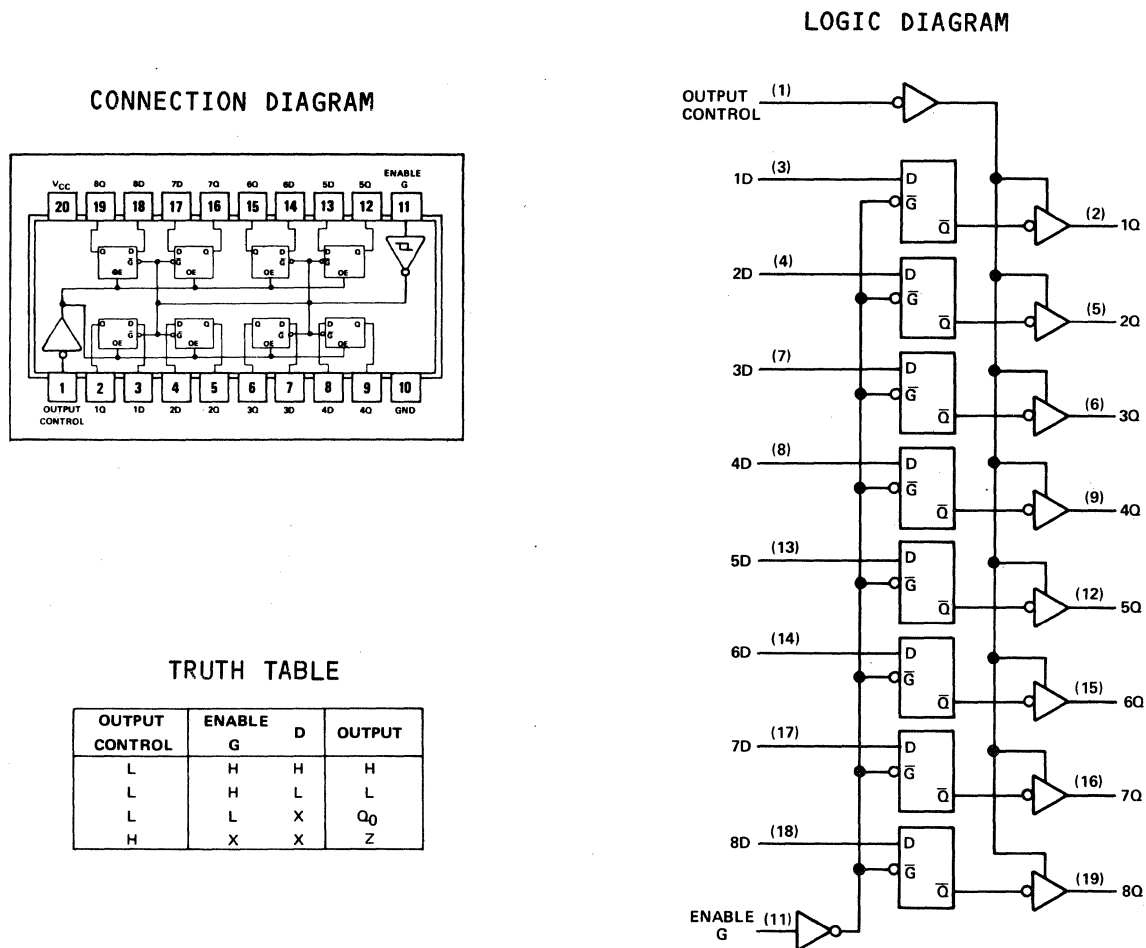

Figure 4-11. Transparent Latch Logic and Connections
This 8-bit register is a transparent D-type latch with three-state outputs. While the enable (G) is high, the Q outputs follow the data (D) inputs. When the enable is low, the output will be latched at the level of the data that was set up. For logic and connections, see Figure 4-11.